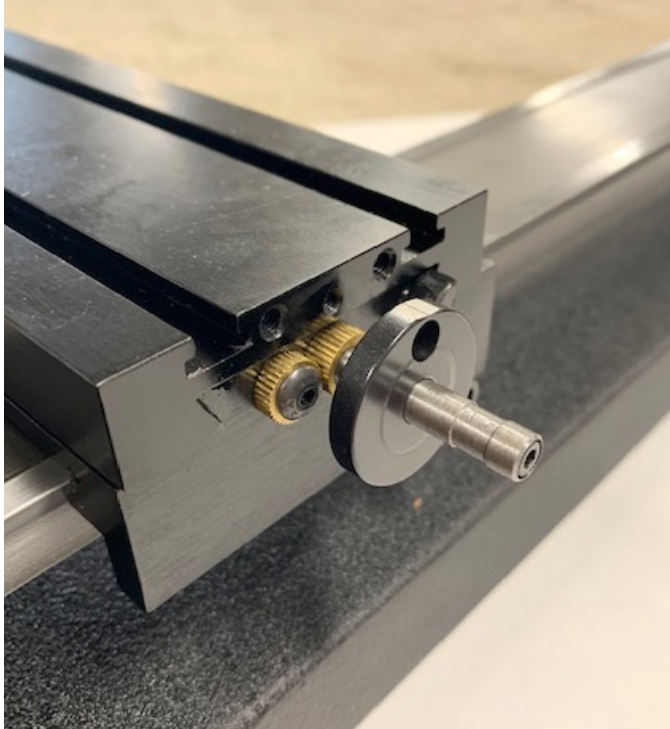
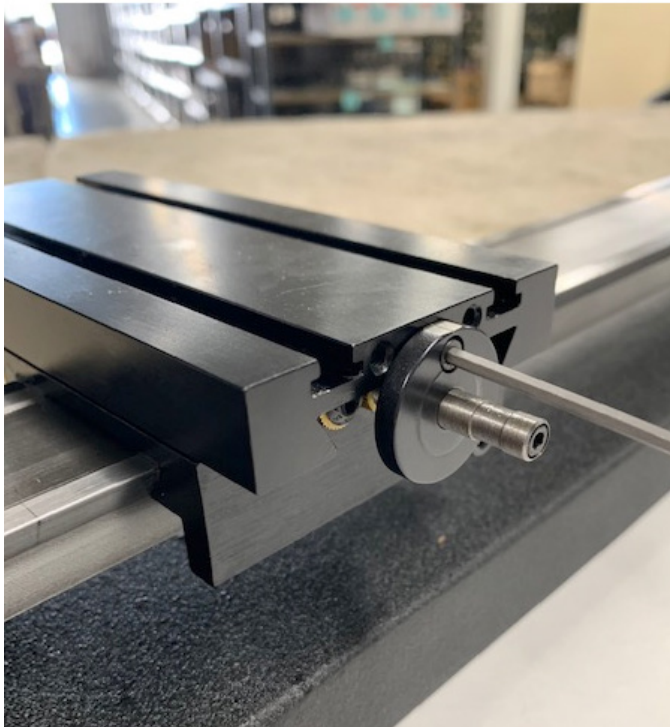

FIGURE 15a
FIGURE 15b
15. Now it's time to align the thrust collar with the slide screw and mount it to the lathe saddle. Put the thrust collar onto the screw adapter. Then pull the crossslide out to the thrust collar (see Figure 15a). Insert the screw into the thrust collar and tighten it almost all the way (see Figure 15b). Then wiggle the thrust collar to get it aligned with the slide screw, and then tighten the screw all the way.